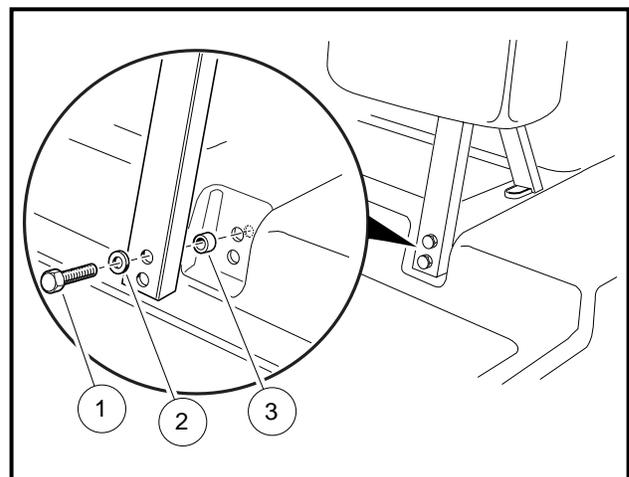

Figure 4-7 Seat Back Support Front Leg Mounting
8. Remove four screws (1), flat washers (2), and spacers (3), attaching the front legs of the seat back support assembly to the body (Figure 4-7, Page 4-7).
4. Tighten four screws (1), flat washers (2), and spacers (3) attaching the front legs of the seat back support assembly to the body to 20 in.lb (2.3 N-m) **(Figure 4-7, Page 4-7)**.